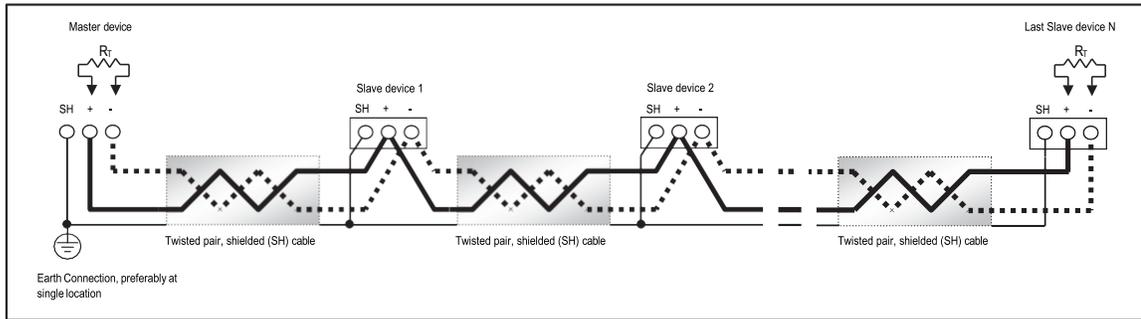

FIGURE 5.3: RS485 Daisy Chain Connection
- Connect shield to RS485 Master and individual devices as shown in Figure 5.3. You may also connect the shield to earth-ground at one point.
Figure 5.3 shows a representation of an RS485 Daisy Chain connection. Refer to the section below, *Using the Multinet*, for details on RS485 connection for the Multinet.